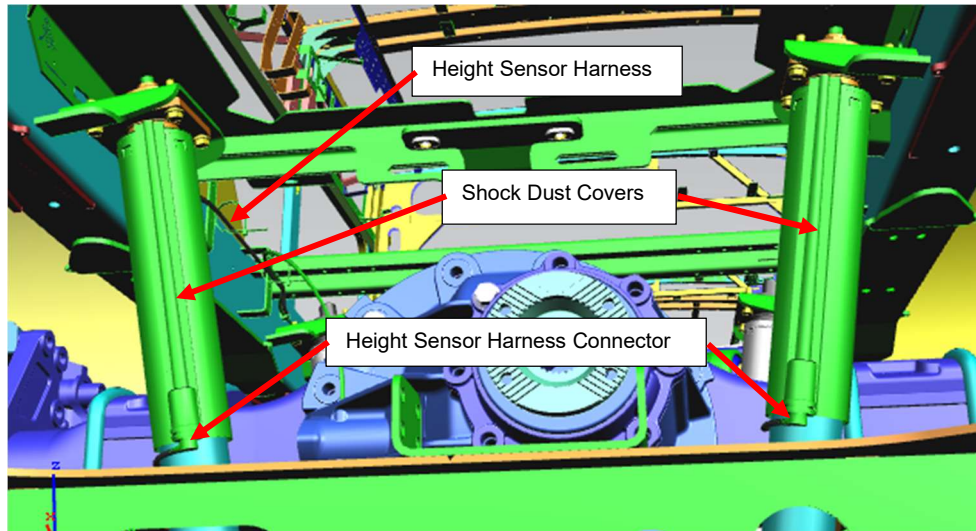

Figure 9: Rear Shock absorbers upper hardware (drive shaft removed for clarity).
- c. Clock the dust covers on the shock absorbers so that the molded plug on the sensor harness faces the rear of the vehicle as seen in Figure 9.